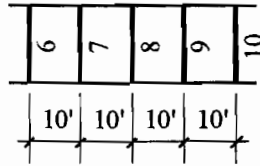

Figure 3-9. Straight Grade
- **Straight Grade** — A surface having a constant slope. A straight grade contour signature is characterized by contour lines that are evenly spaced, as shown in figure 3-9.